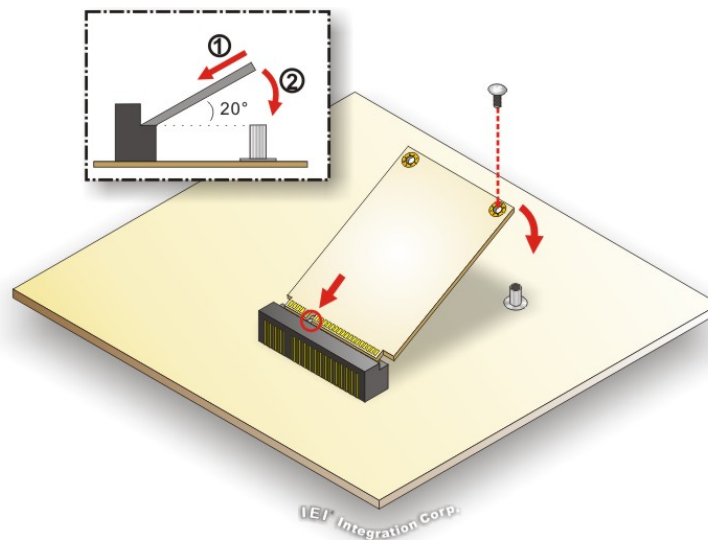

Figure 3-7: mSATA Module Installation
Step 4: Secure the mSATA module with the retention screw. Push the other end of the mSATA module down and secure the module with the previously removed retention screw (**Figure 3-7**).